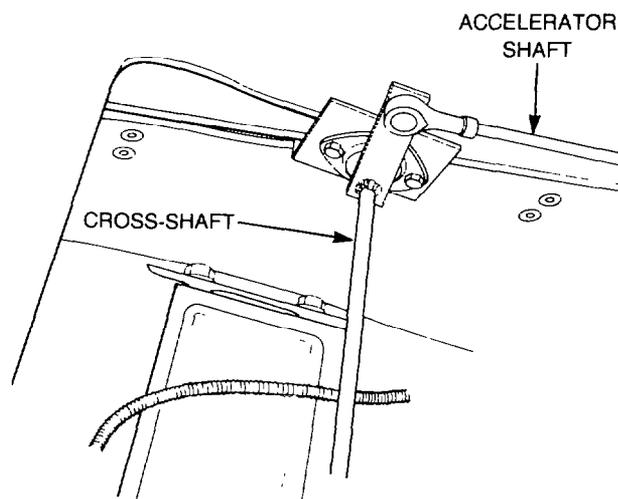

Figure 319 — Accelerator Shaft — Removal
- ab. Remove the engine cover inside the cab, then disconnect the fuel pump accelerator linkage from the accelerator cross-shaft (see Fig. 319).